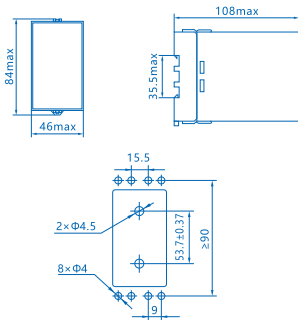

Figure 1 Outline and installation size
3.1 Outline and installation size: see Figure 1, unit: mm.